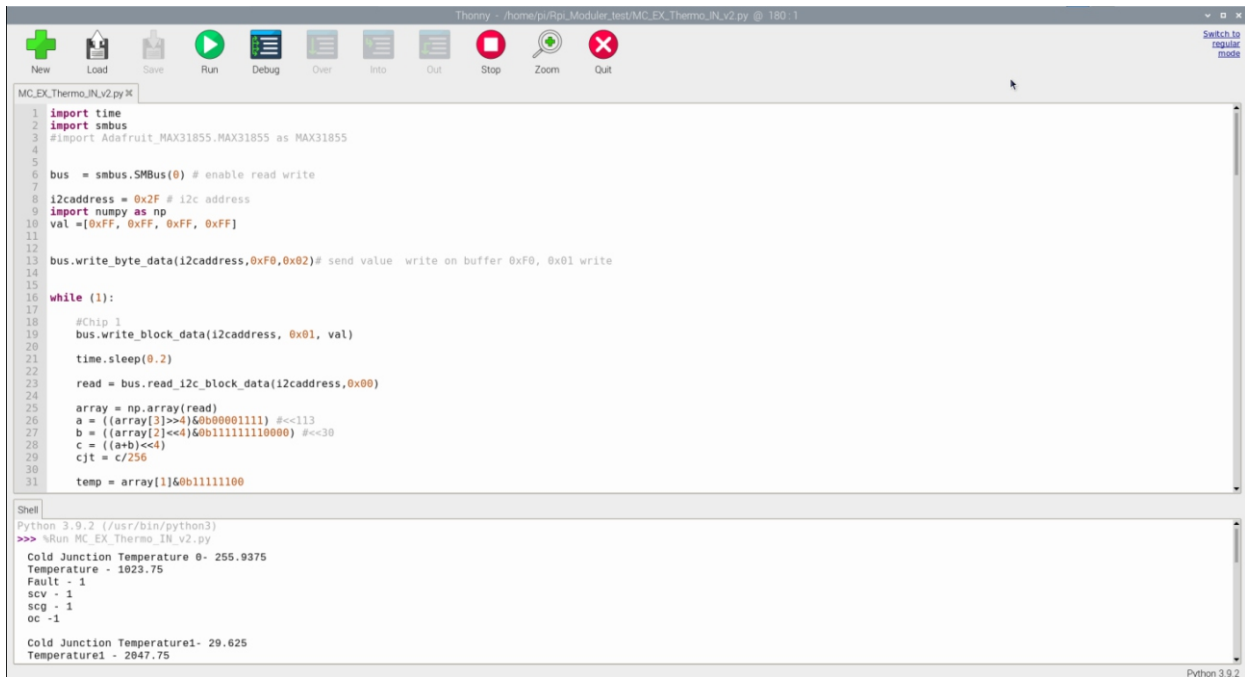

Figure 4: Thermocouple Input example code run on Thonny Python IDE.
5. The python program will open on default Thonny Python IDE. Click RUN for start the program shown in Figure 4.